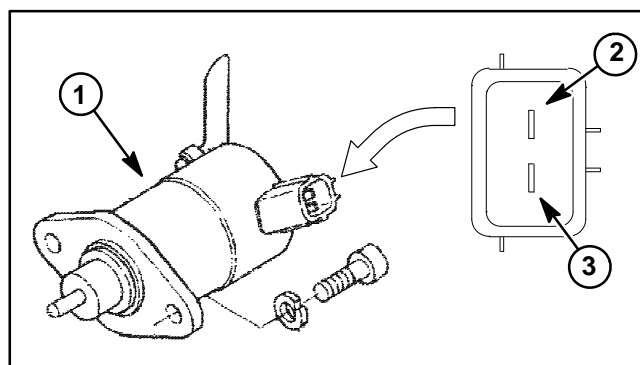

Figure 76
2. Using a digital multimeter, touch one test lead to the pull coil terminal and the other test lead to the fuel stop solenoid frame (ground) (Fig. 76). The resistance of the pull coil should be **less than 1 ohm (but not zero)**.
3. Using a digital multimeter, touch one test lead to the hold coil terminal and the other test lead to the fuel stop solenoid frame (ground) (Fig. 76). The resistance of the hold coil should be approximately **15 ohms**.